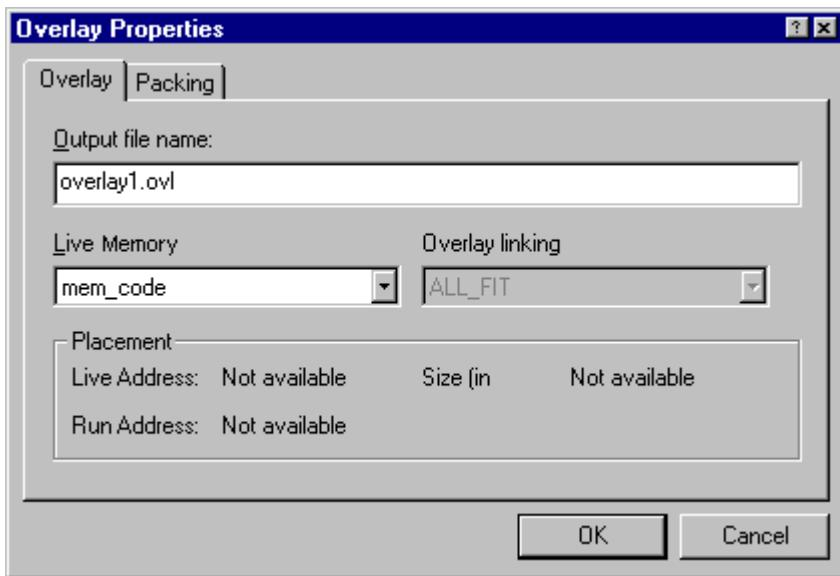

Figure 4-54. Overlay Properties Dialog Box – Overlay Tab
2. Choose **Properties** and click the **Overlay** tab (Figure 4-54)